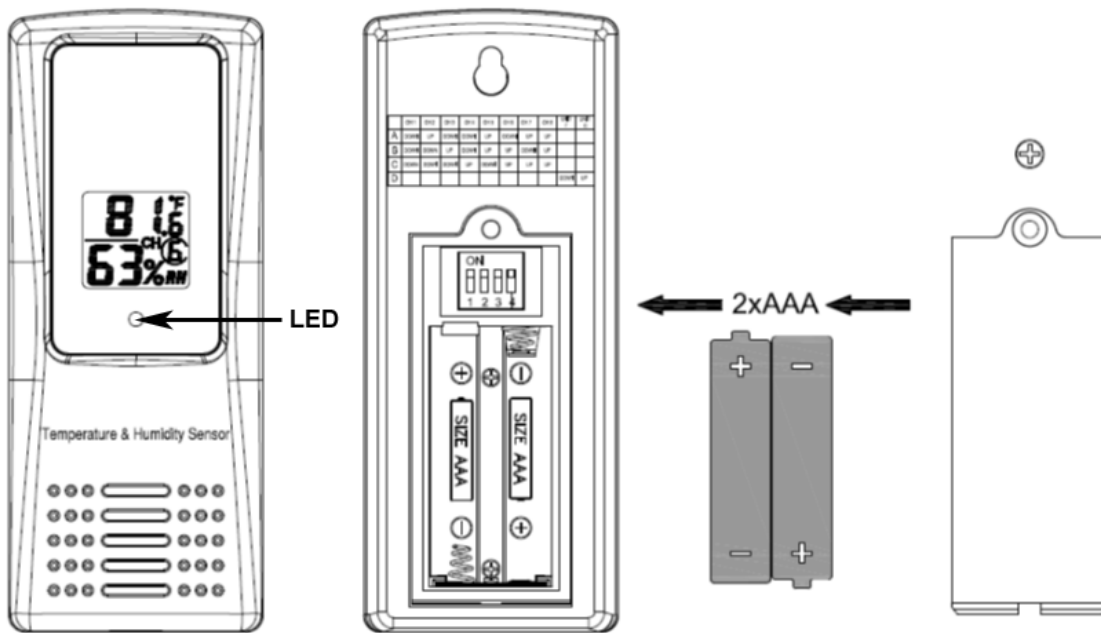

Figure 1
1. Remove the battery door on the back of the sensor by removing the set screw, as shown in Figure 1 .